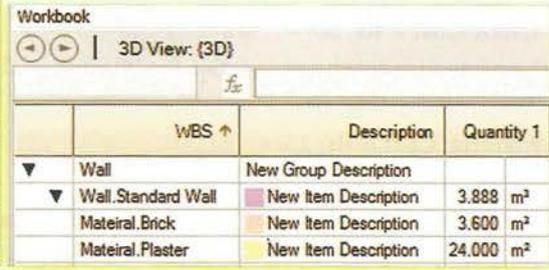

Fig 9: Wall Quantities
- In the 'Workbook' expand the wall and check the quantities. Compare the results with manual calculation (Figure 9).